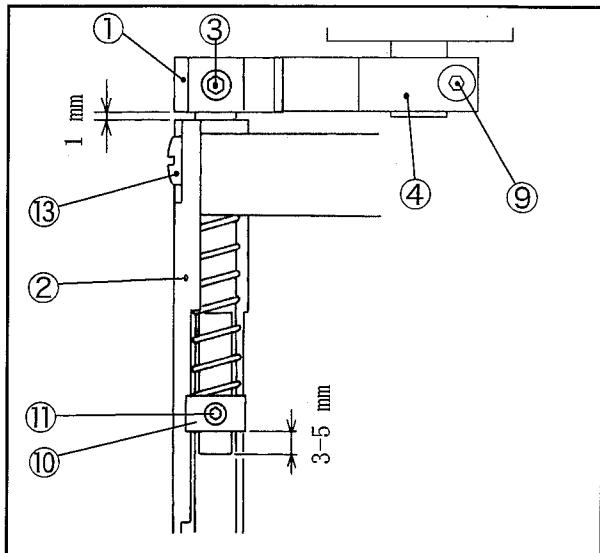

Fig. 8
(1) Adjust the pressure of the upper knife⑦ against the lower knife⑧ by tightening the screw⑪ until the upper knife collar⑩ is 3–5 mm from the edge of the flat face of the upper knife shaft. (Fig. 8)
(2) Tighten the screw③ against the flat face of the upper knife shaft until the clearance between the driven gear① and upper knife holder② is 1 mm. (Fig. 8)
- 1) Remove the two screws⑫ and screw⑬ in Fig. 8.
- 3) Remove the two screws⑮ and screw⑯ (3 total) of the lower knife.
- 4) Exchange the lower knife⑧.